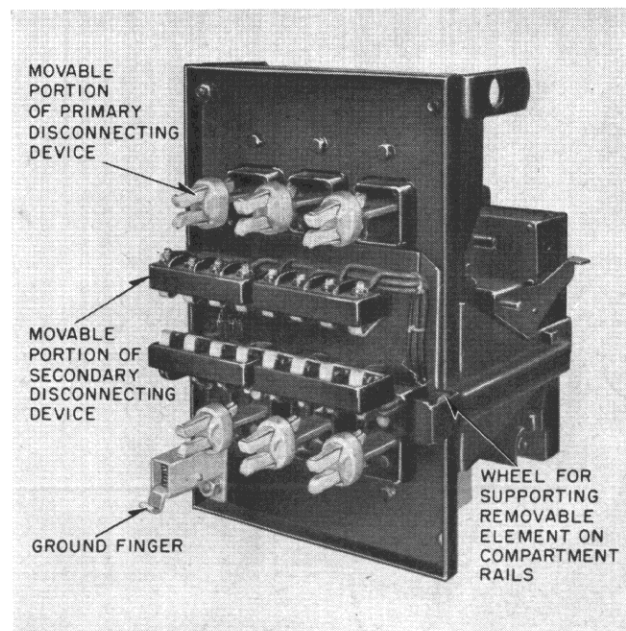

FIG. 8. Removable Element for Type DB-15 Circuit Breaker
**Removable Element.** The removable element consists of the air circuit breaker equipped with primary and secondary disconnecting devices, an operating mechanism, position indicator and interlocks. Wheels engage the side rails in the compartment to support and guide the removable element. For the DB-25 and DB-50 breakers the four wheels are mounted directly on the sides of the circuit breaker assembly, while for the DB-15 breaker the two rear wheels are on the breaker assembly, and the two front wheels are mounted on the sides of the compartment. For all type DB breakers the lifting bracket is permanently mounted at the top of the breaker assembly. See Figs. 8, 10 and 12.
Each removable element is provided with a positioning pin located as shown in Figs. 8, 10 and 12. The positioning pin engages slots on a bracket in the compartment to lock the removable element in each of the three positions. See Figs. 7, 9 and 11.